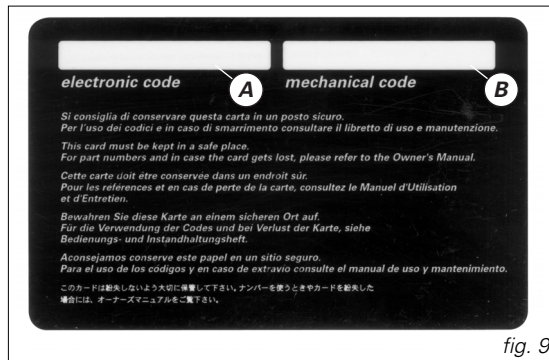

fig. 9
A) (fig. 9) the electronic code to be used in case of engine block, i.e. bike did not start after **key-ON**.
B) (fig. 9) the mechanical code for the keys to be reported to the DUCATI Service network when you are ordering any duplicate keys.